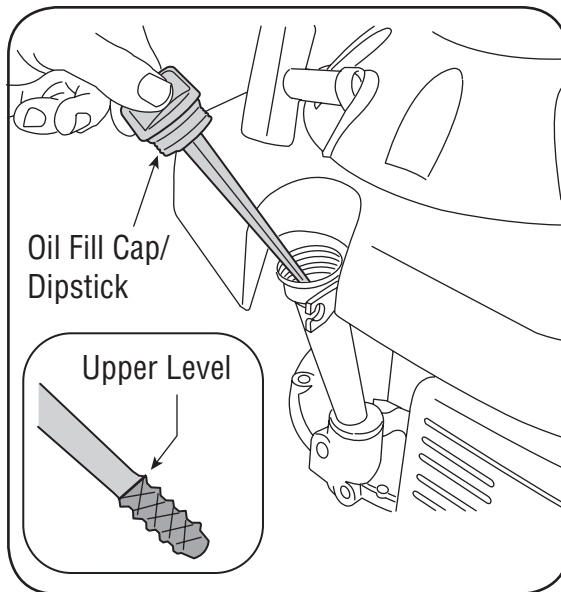

Figure 9-2: Checking the oil level.
1. Remove the oil filler cap and wipe the dipstick clean. See Figure 9-2.